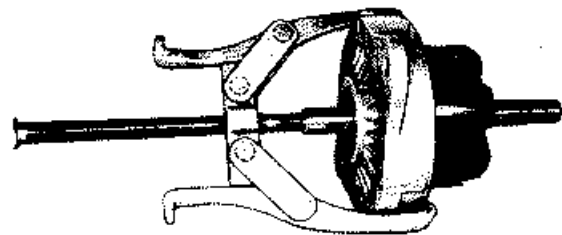

FIG. 10
- Using a puller or arbor press, remove the drive end housing and bearing assembly from the rotor shaft. (See Figure 10.)